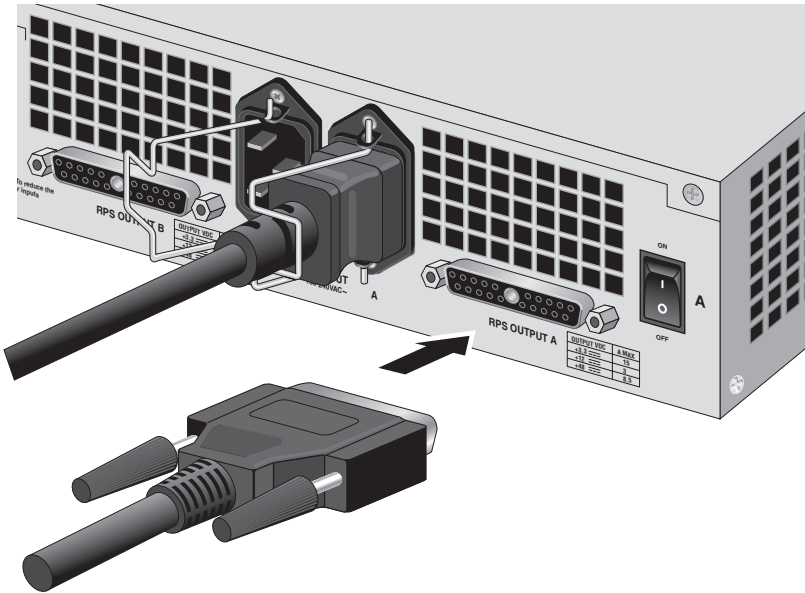

Figure 13. Connecting the RPS Cable to the AT-RPS3104 Unit
7. Plug the other end of the RPS cable into the connector labeled “RPS OUTPUT A” on the back of the AT-RPS3104 system (see Figure 13).